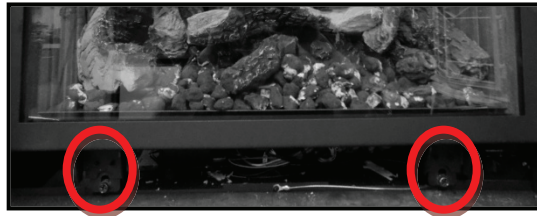

Figure 41
1. Make sure that the gas and electrical supply is shut off. Locate and remove the two 3/8" bolts securing the bottom of door as seen in Figure 41